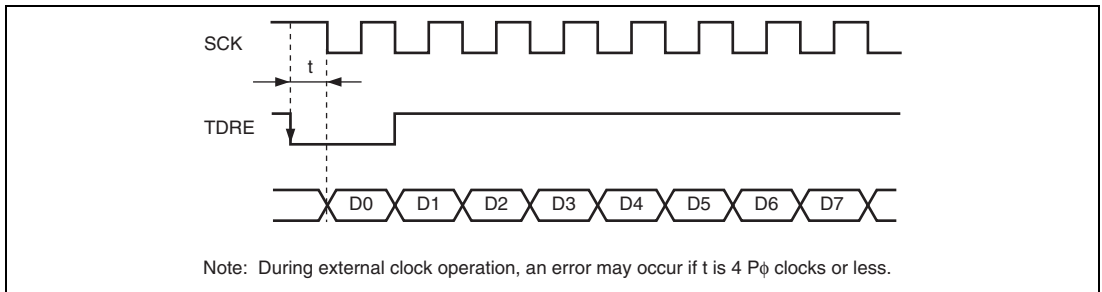

**Figure 13.30 Example of Clocked Synchronous Transmission with DMAC/DTC**
1. When using an external clock source for the serial clock, update TDR with the DMAC or the DTC, and then after the elapse of five peripheral clocks ( $P\phi$ ) or more, input a transmit clock. If a transmit clock is input in the first four  $P\phi$  clocks after TDR is written, an error may occur (figure 13.30).